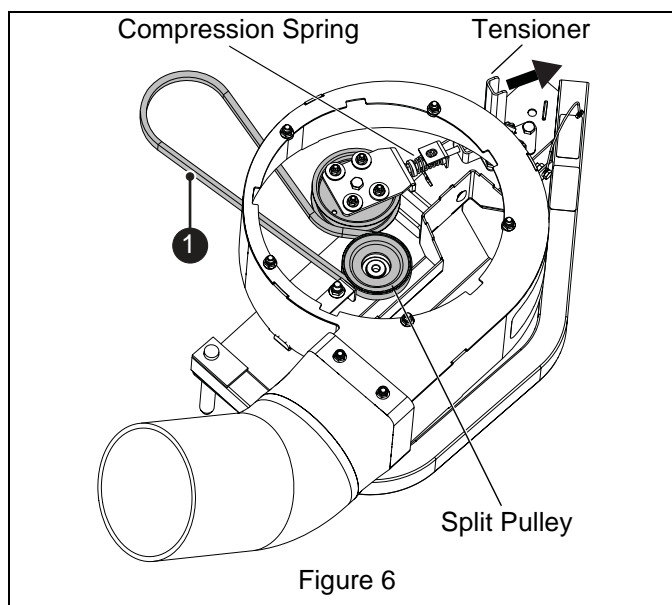

Figure 6
2. Install V-belt (item 1) around split pulley on blower assembly so that back side of belt contacts idler pulley. See Figure 6.